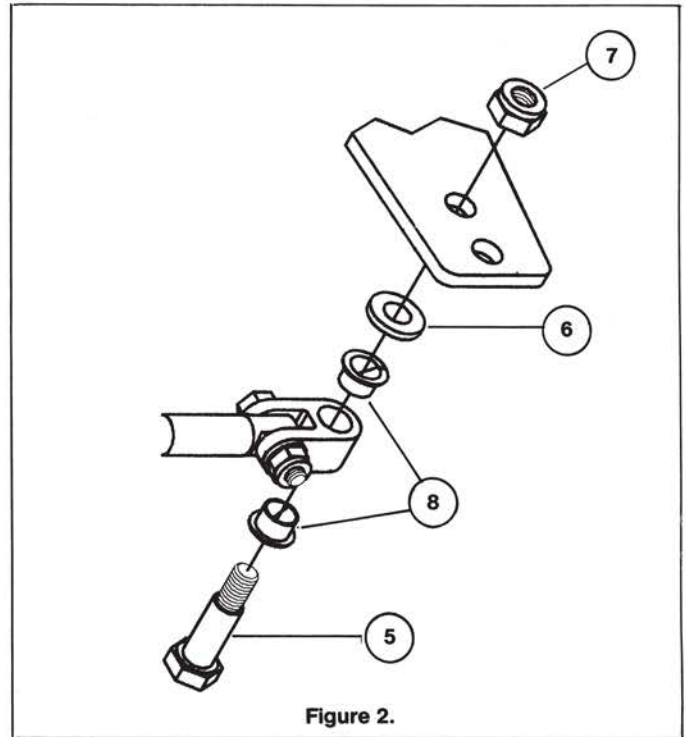

Figure 2.
STEP 2. Place Bushing (item 8) in Clevis (item 1), and insert Bolt (item 5) in clevis, as shown in Figure 2. Place Washer (item 6) onto bolt and insert bolt into tiller arm. Retain in place with Locknut (item 7), tighten securely.